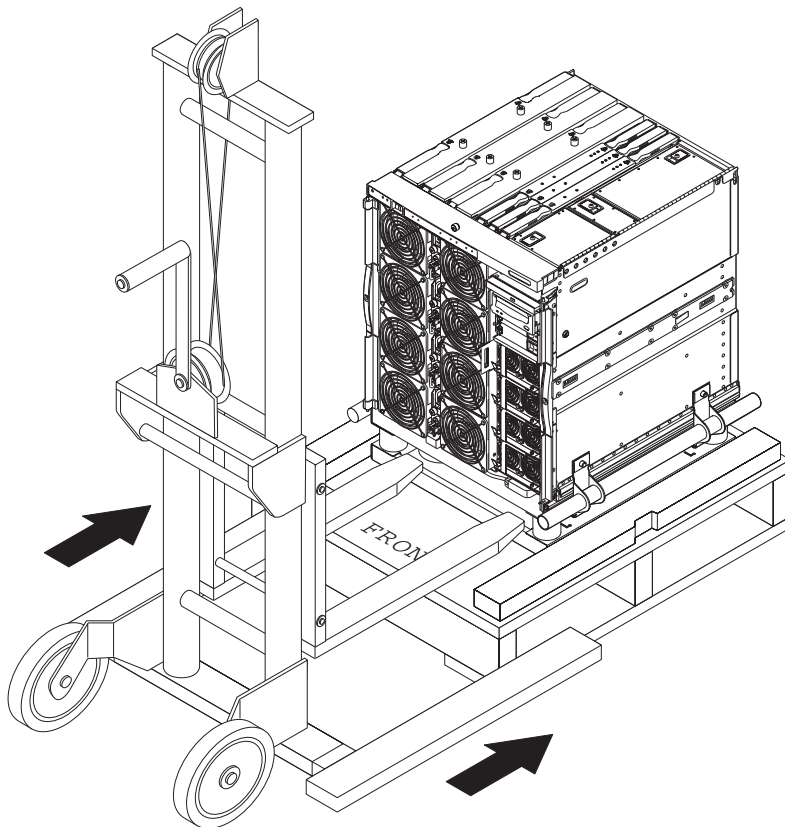

FIGURE 1-8 Inserting the Lifting Device into the Shipping Cradle
2. Insert the forks of the lifting device fully through the shipping cradle opening (FIGURE 1-8).